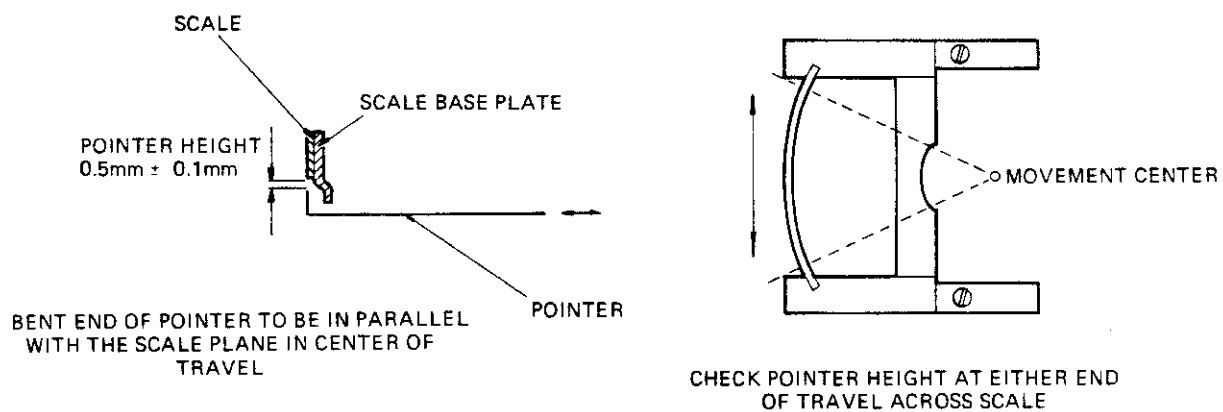
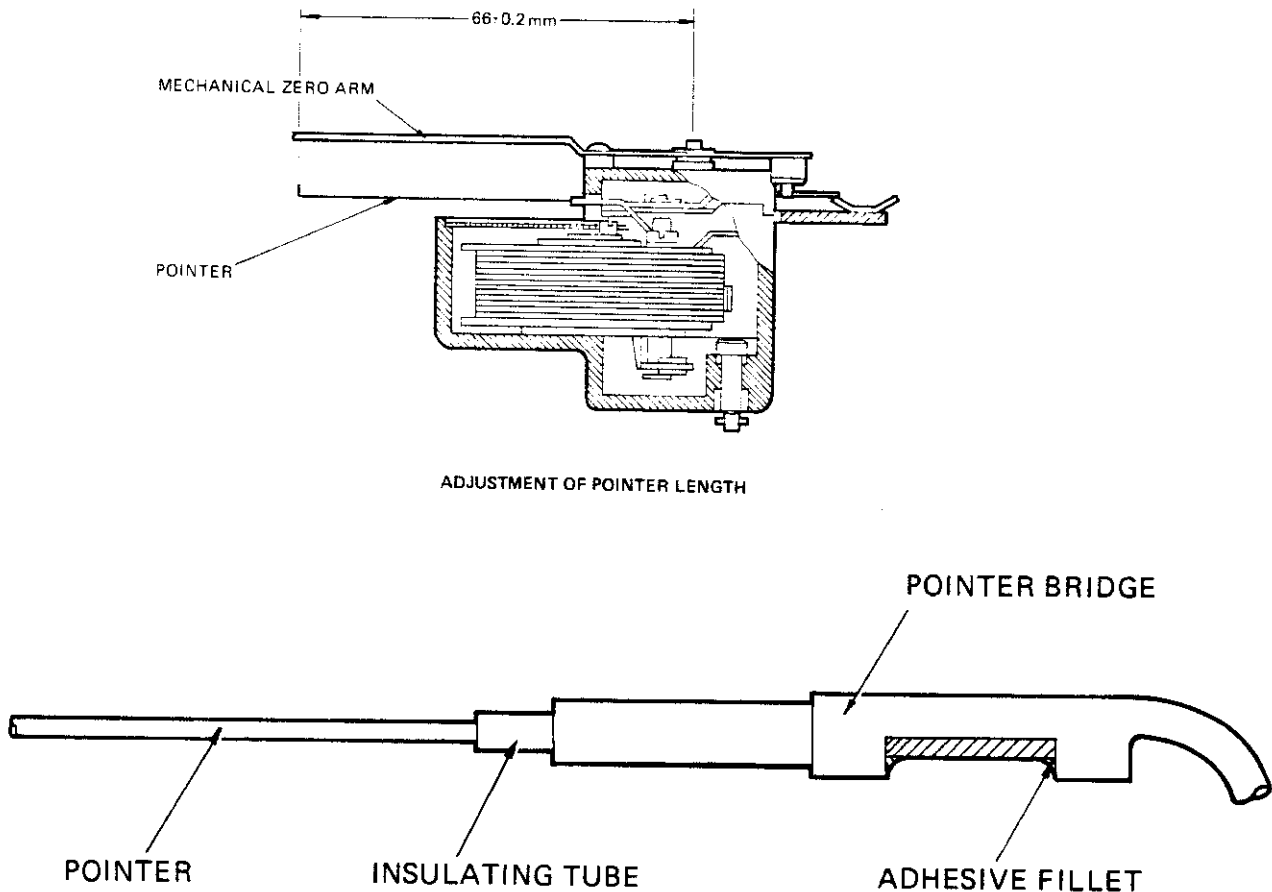

Fig. 4 Pointer adjustment
Fig. 5 Replacement of pointer
- 21.3 Adjust as necessary the pointers lateral position to the scale using the four fixing screws of the movement cover plate (see fig. 4).
- 21.4 Check that the pointer moves parallel to the scale arc and if necessary, re-adjust the lateral position of the movement (see fig. 4).
The height of the pointer shall be $0.5 \text{ mm} \pm 0.1 \text{ mm}$ from the lower edge of the scale, (see figure 5). and not less than 1 mm between positioning of the slotted nuts fitting the meter movement compartment to the carrier plate. Move the pointer across the lateral range of movement to ensure that the distance between pointer and scale, and pointer and recording roller remains constant. (see figure 4).
- 25.3 Remove all traces of adhesive from the outside of the pointer bridge (fig. 5).